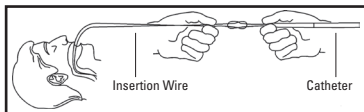

Figure 5
- Grasp the dilating tip between the thumb and forefinger, tighten the loops together to form attachment (Figure 5).